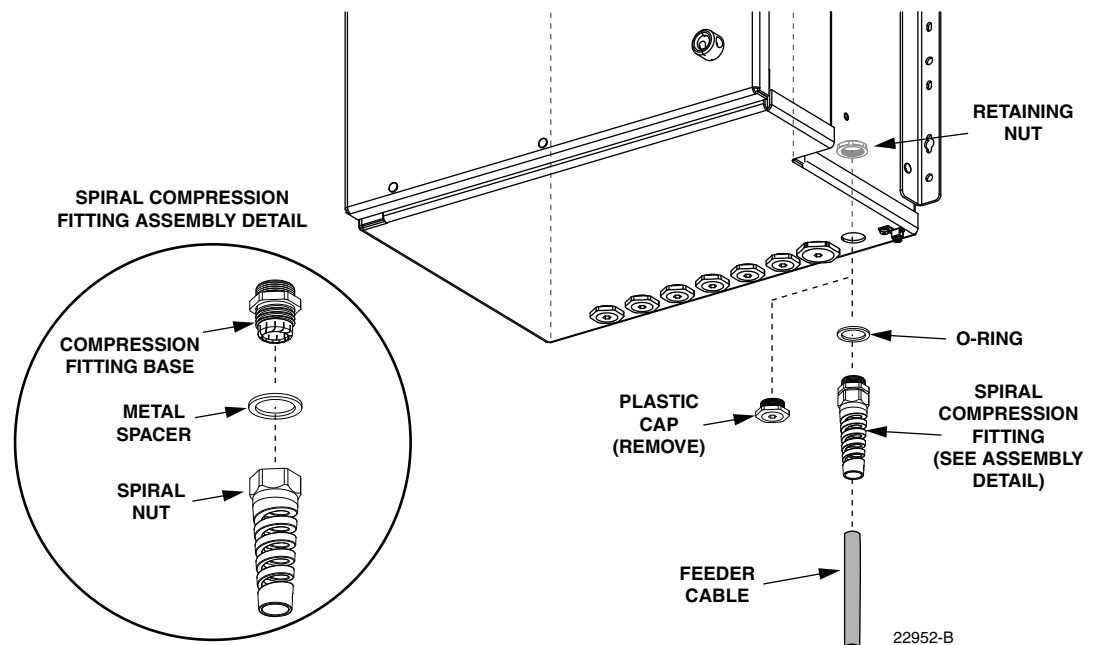

Figure 33. Plastic Cap Removal and Compression Fitting Installation
14. Remove the plastic cap and retaining nut from the feeder cable entry/exit hole as shown in Figure 33. Save the retaining nut for reuse.
15. Locate the spiral compression fitting components that are shipped with the cabinet and loosely assemble the fitting as shown (Figure 33).